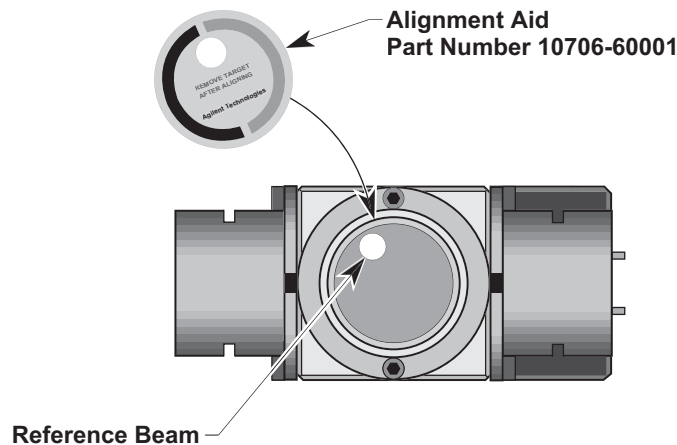

Figure 151 Alignment aid attached over reference beam
- 12 Replace the alignment aid over the output aperture of the differential interferometer such that the beam going to the reference mirror (which becomes the reference beam) passes through the alignment aid. See Figure 151.